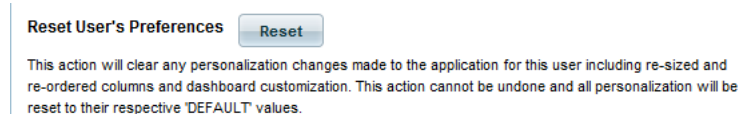

FIG. 87 My Profile page - Reset User's Preferences button
2. Click the **Reset User's Preferences** button at the bottom of the page (FIG. 87).